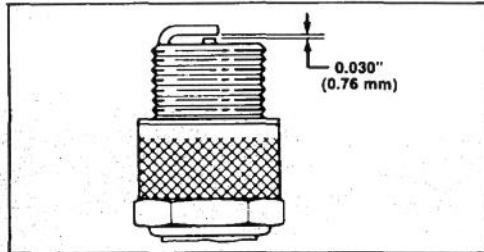

Figure 30
3. Set air gap between electrodes of new spark plug at 0.030 of an inch (0.76 mm), (Fig. 30). Next, install spark plug in cylinder head. Tighten plug to 15 ft-lb (20.4 N·m). If torque wrench is not used, tighten plug firmly.